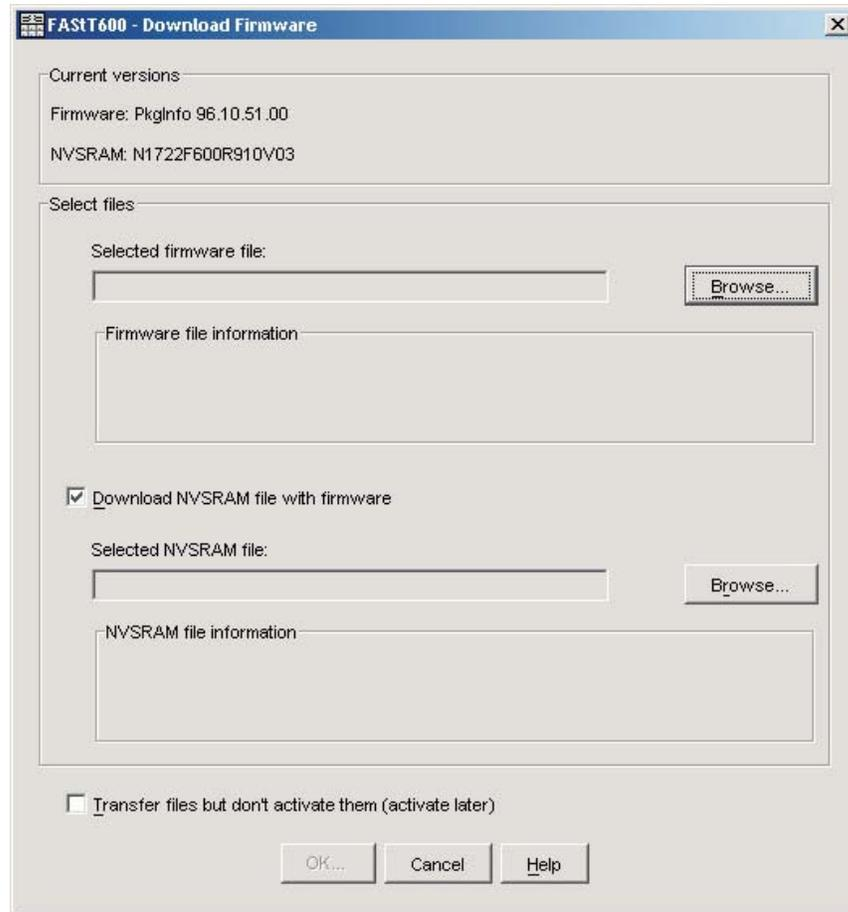

Figure 20. Download Firmware window
3. Click **Advanced** → **Maintenance** → **Download** → **Controller firmware....** The download firmware window opens as illustrated in Figure 20 on page 119.